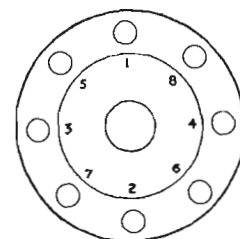

Fig. 43. Sequence of tightening wheel nuts.
5. Fit the other half of the wheel and tighten the clamping nuts lightly. Finally tighten the nuts in the sequence illustrated. See Fig. 43. Check that the valve is free and inflate the tyre to the recommended pressure.